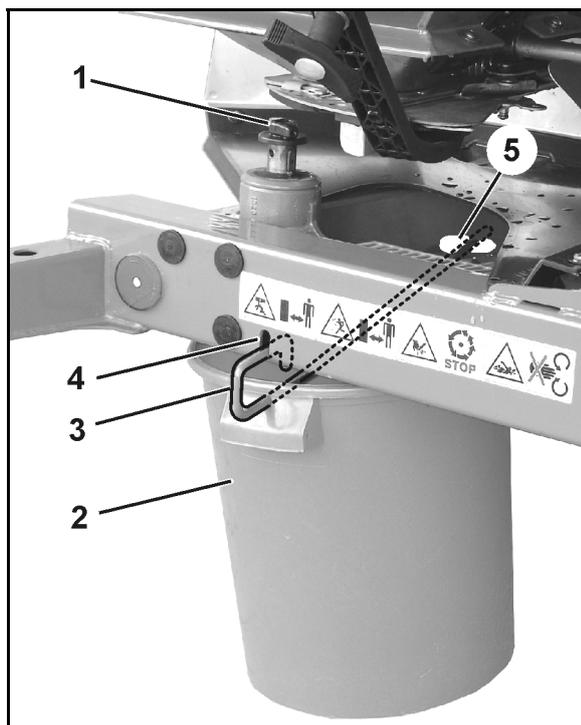

Fig. 52
- 2.1 Unscrew the wing nut (Fig. 52/1) securing the spreader disc and remove the spreader disc from the gearbox shaft.
3. Hook the collection bucket (Fig. 52/2) using the brackets (Fig. 52/3) into the supports (Fig. 52/4 and Fig. 52/5) on the frame.